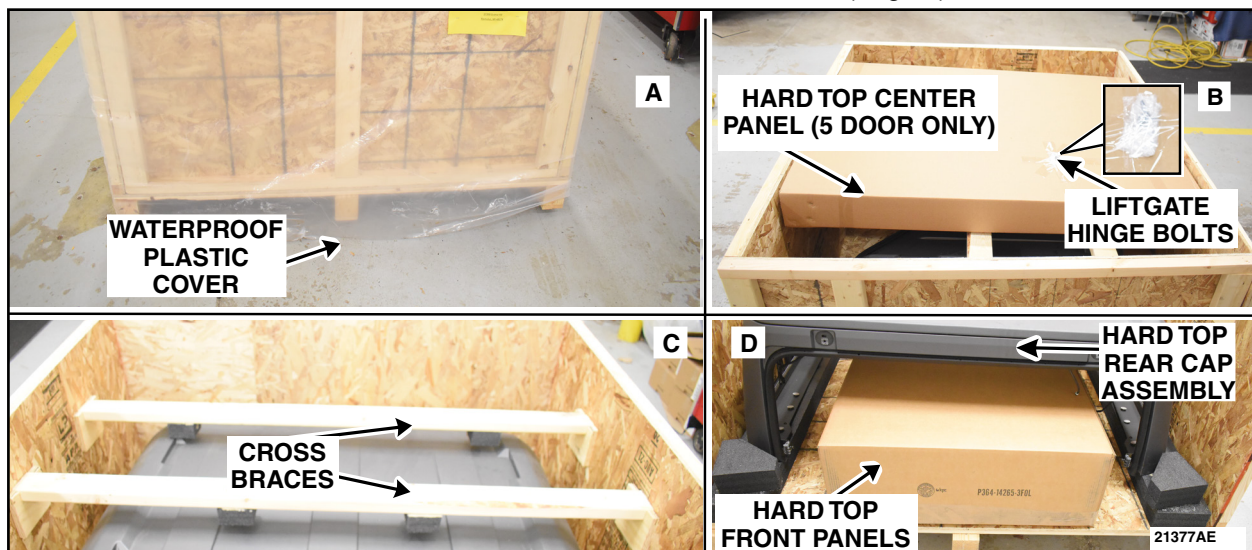

FIGURE 2
1. Carefully remove the waterproof plastic cover (A), the top of the crate (B), the cross braces (C), then the end that is screwed in (D). Set aside the cardboard boxes containing the hard top roof panels and the plastic bag containing the liftgate window hinge bolts that will be used later in this procedure. See Figure 2.